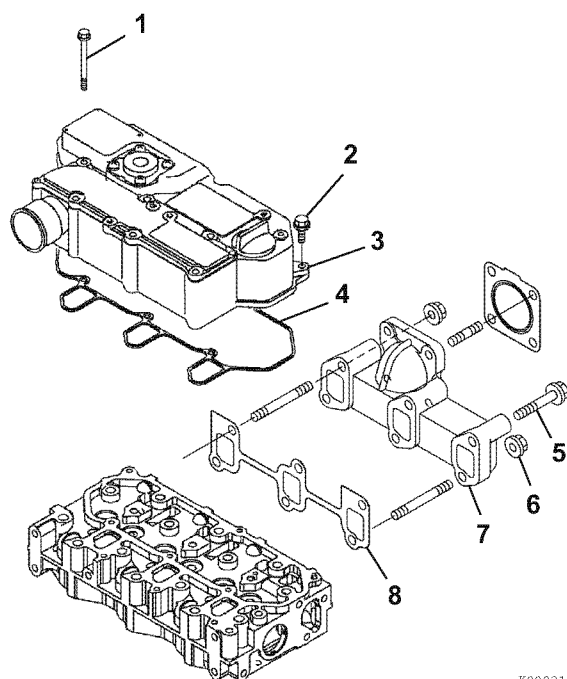

Figure 6-34
2. Lightly grease a new valve cover gasket (4, **Figure 6-34**). Place the gasket in the groove of the intake manifold/valve cover (3, **Figure 6-34**).
4. Reinstall and tighten bolts (1 and 2, **Figure 6-34**) securely.
5. Reinstall the exhaust manifold using a new gasket. Tighten the bolts and nuts (5 and 6, **Figure 6-34**) securely.